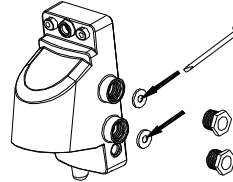

FIGURE 6
- 2) Unscrew one of the cable glands and using a suitable tool pierce a hole on the cable grommet. Route the HO5RNF supply cable through the cable gland and grommet (FIGURE 6).